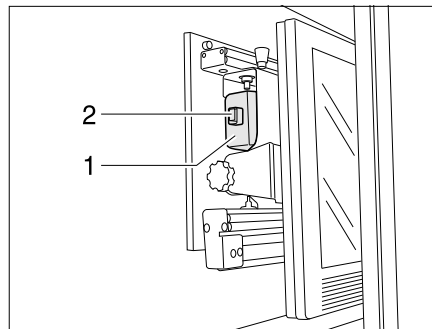

Fig. 9 Holder in the TV cabinet
- Rotate the television to its initial position (Fig. 9) and lock it into place.
- Use handle (Fig. 9,1) to push the holder for the flat screen backwards. The latch (Fig. 9,2) will engage.